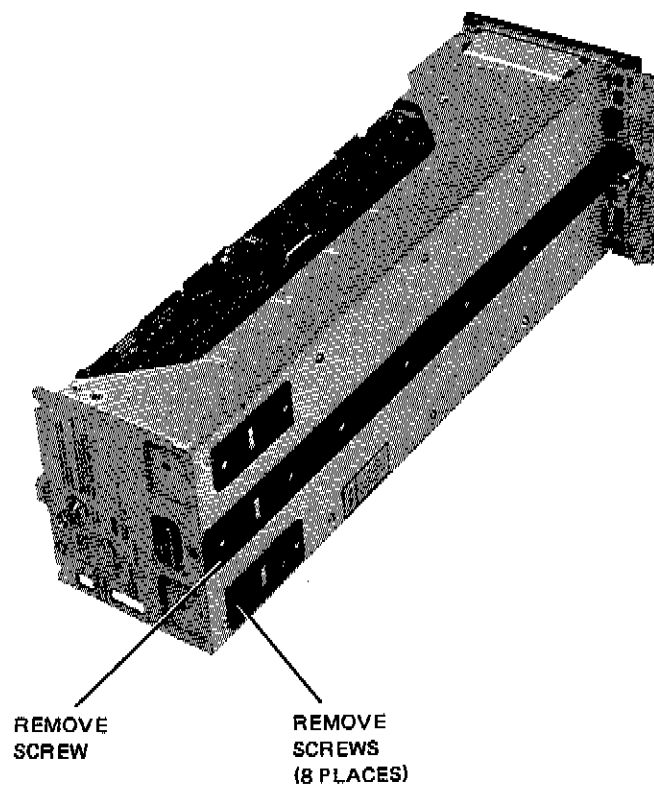

Figure 3. Bottom Cover Removal
1. Remove the bottom-cover screws as indicated in Figure 3, and lift bottom cover from module.